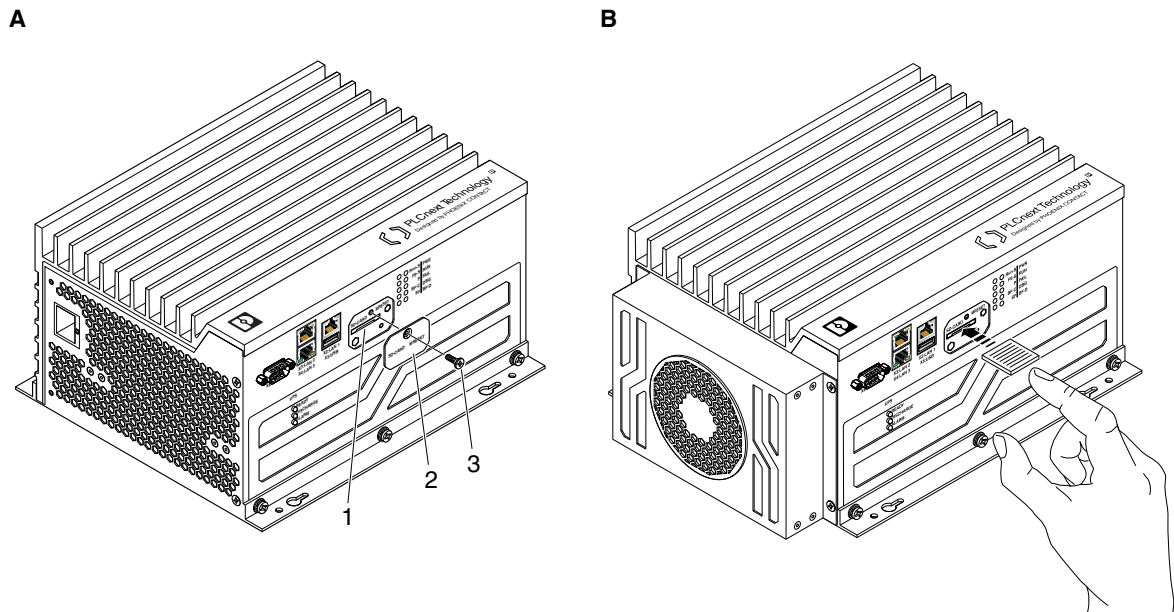

Figure 4-4 Inserting the SD card (configuration memory)
Figure 4-4 is a graphical representation of how to insert the SD card.
- To insert the SD card, remove the screw (3) in the cover (2) using a Torx® TX 10 screwdriver (ordering data is available in Section 14.1.3, "Accessories").
- Then swivel the cover (2) to the side so that you can easily access the SD card holder (1).
- Insert the SD card with the contact strip to the front into the slot provided (see Figure 4-4, B).